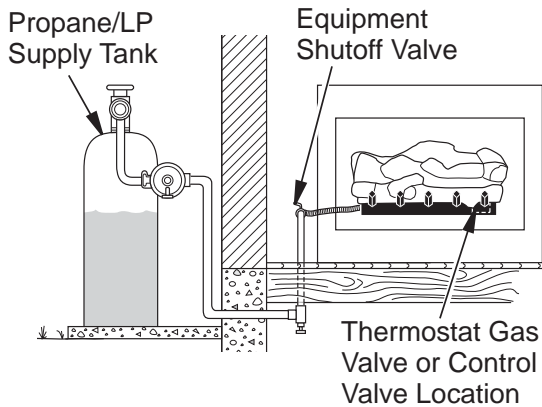

Figure 15 - Checking Gas Joints (Propane/LP Only)
3. Check all joints from gas meter to equipment shutoff valve for natural gas or propane/LP supply to equipment shutoff valve for propane/LP (see **Figure 15 or 16, Page 16**). Apply noncorrosive leak detection fluid to all joints. Bubbles forming show a leak.
4. Check all joints from equipment shutoff valve to thermostat gas valve (see Figure 15 or 16). Apply noncorrosive leak detection fluid to all joints. Bubbles forming show a leak.